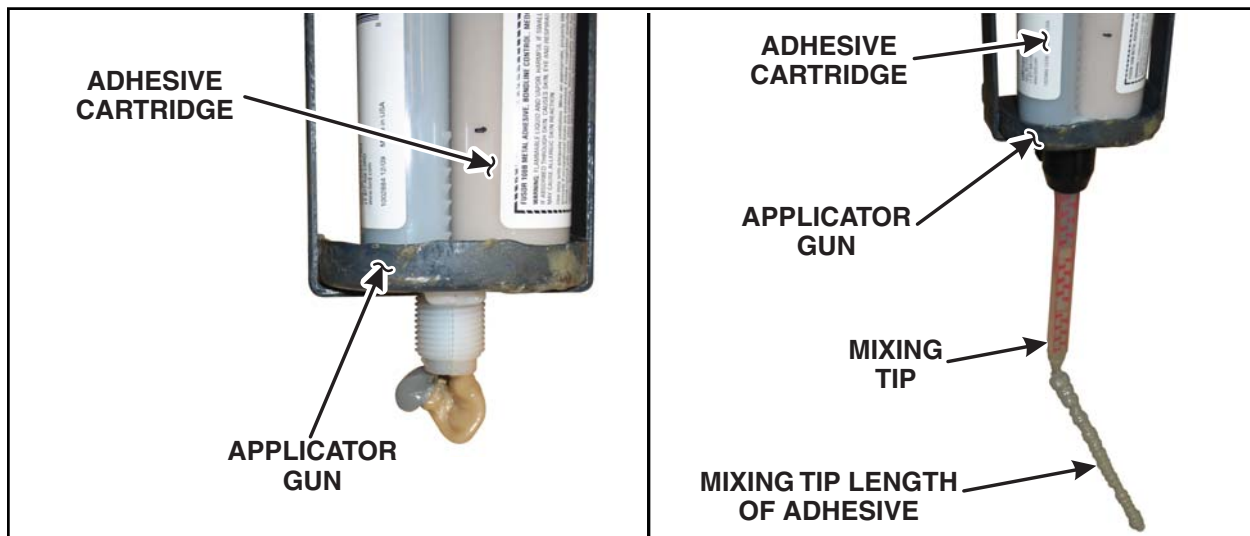

FIGURE 5A
3. Squeeze out a small amount of adhesive to ensure both sides of the adhesive cartridge are flowing equally. See Figure 5A.